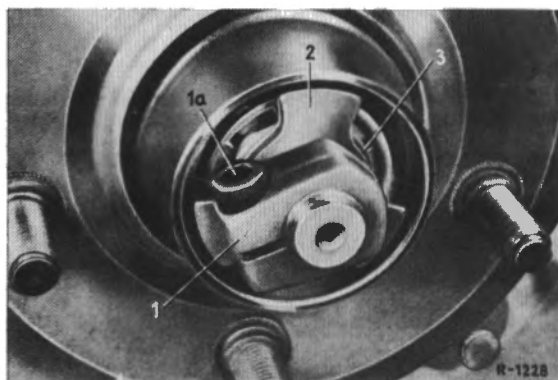

Fig. 33-5/2
5. Take the inner race with roller cage (6) of the outer annular taper roller bearing out of the hub (Fig. 33-5/3).